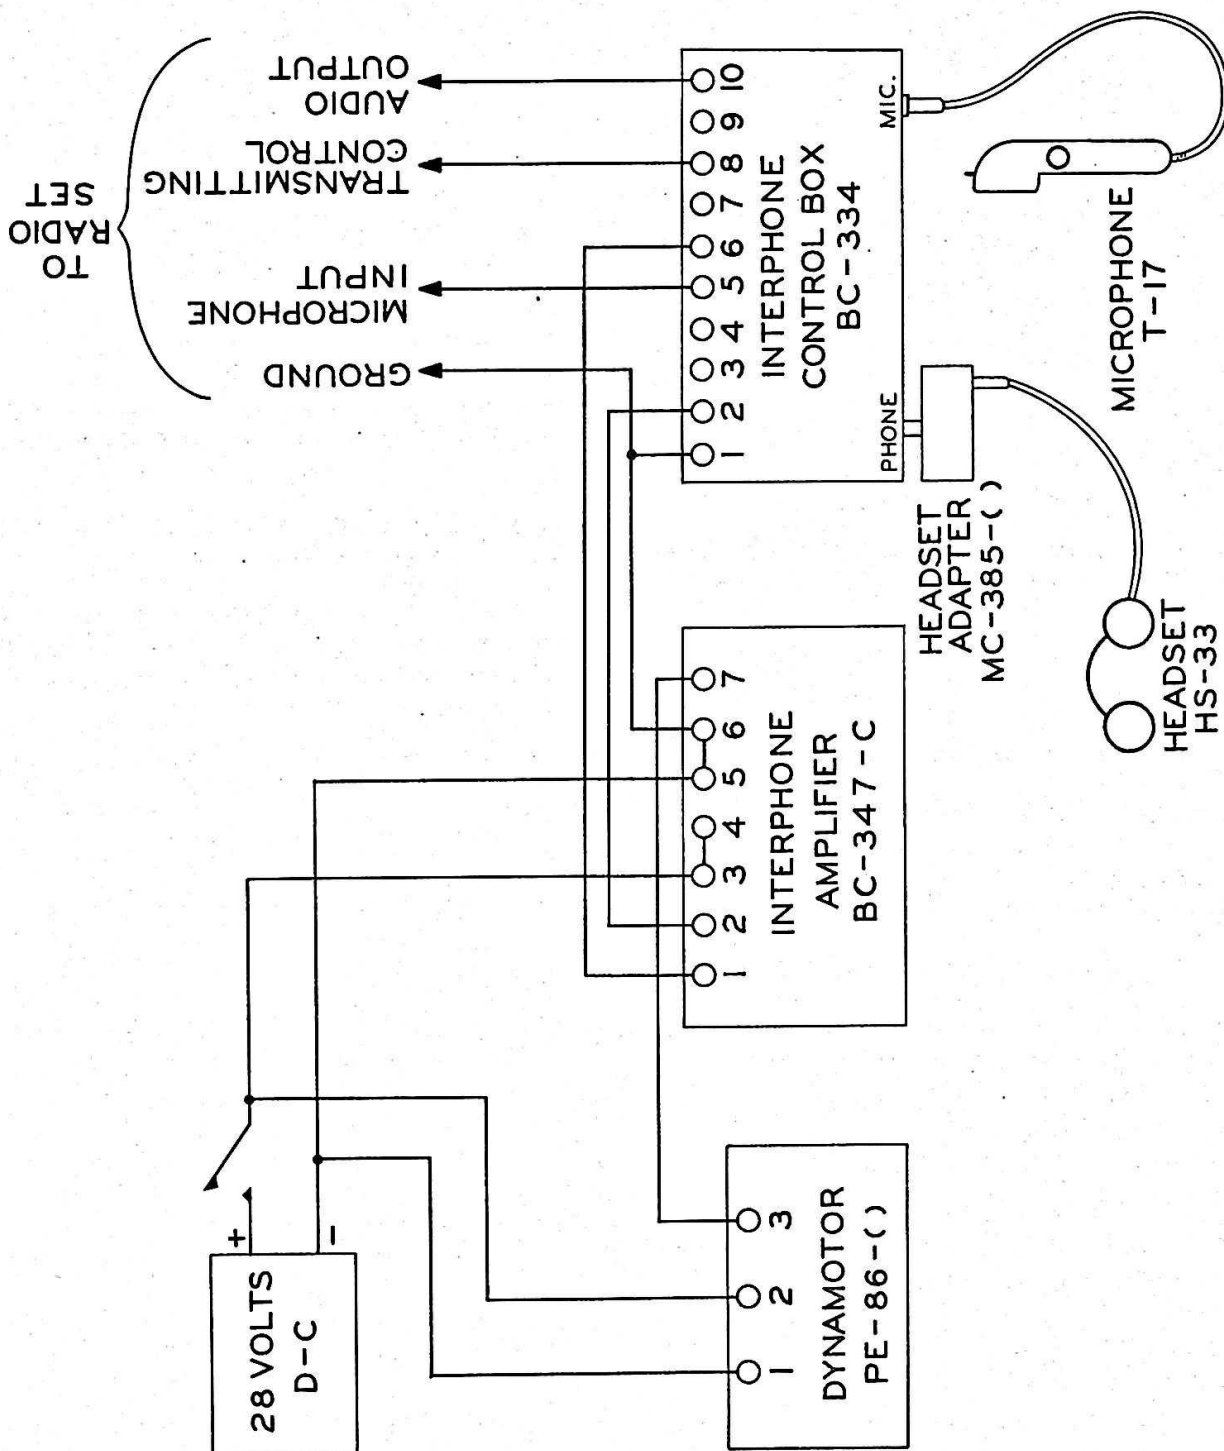

Figure 1-6. Bench Check Interconnection Diagram
(1) Connect the amplifier and dynamotor in the test circuit shown in figure. 1-6.
(2) Turn on the power, place Switch S in position M, close the microphone switch, and speak into microphone T-17. An accurate reproduction of the speaker's voice should be heard in the headset.